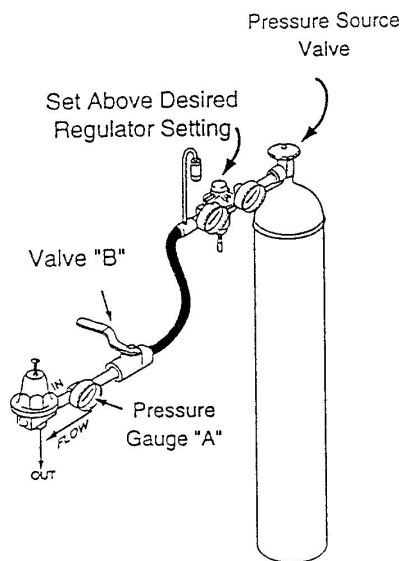

Figure 2
1. Connect the inlet of the economizer regulator to a pressure source as shown in Figure 2.